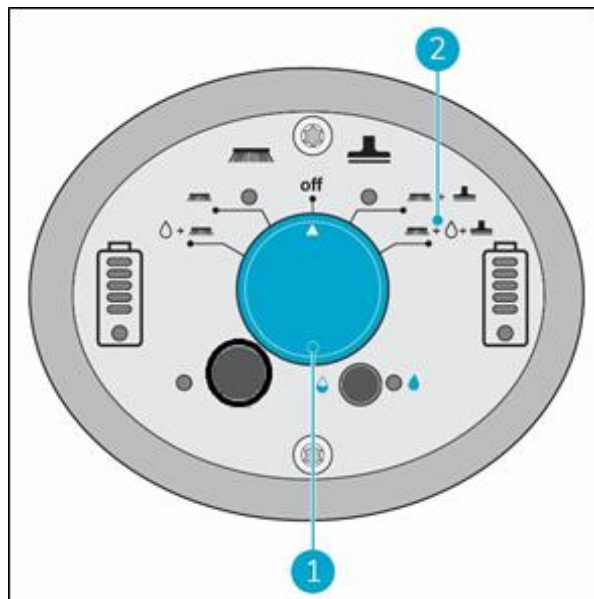

Figure 22
2. Use the i-mop® XL Plus main switch (Figure 22, pos 1) and choose MODE 4 Brush + Water/Cleaning solution + Dry vacuum (Figure 22, pos 2).